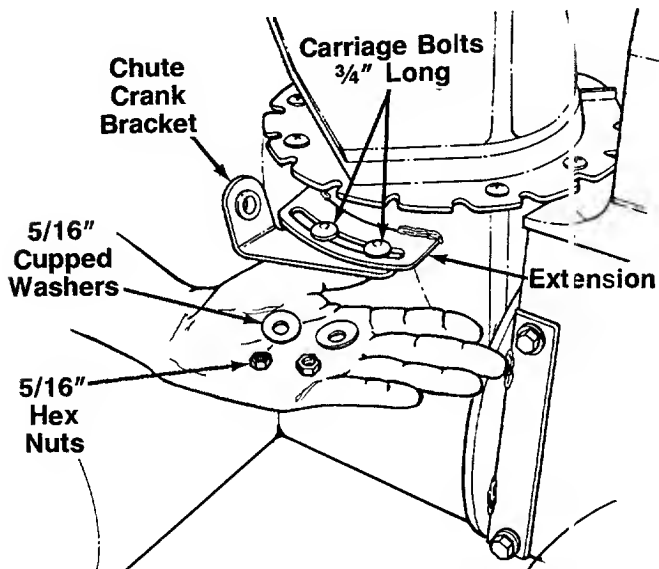

FIGURE 7.
4. Attach chute crank bracket to the extension on the left side of the chute opening (bracket goes beneath the extension) as shown in figure 7. Secure with two 3/4" long carriage bolts, 5/16" cupped washers (cupped side of washers go against the chute bracket) and hex nuts. Do not tighten at this time.